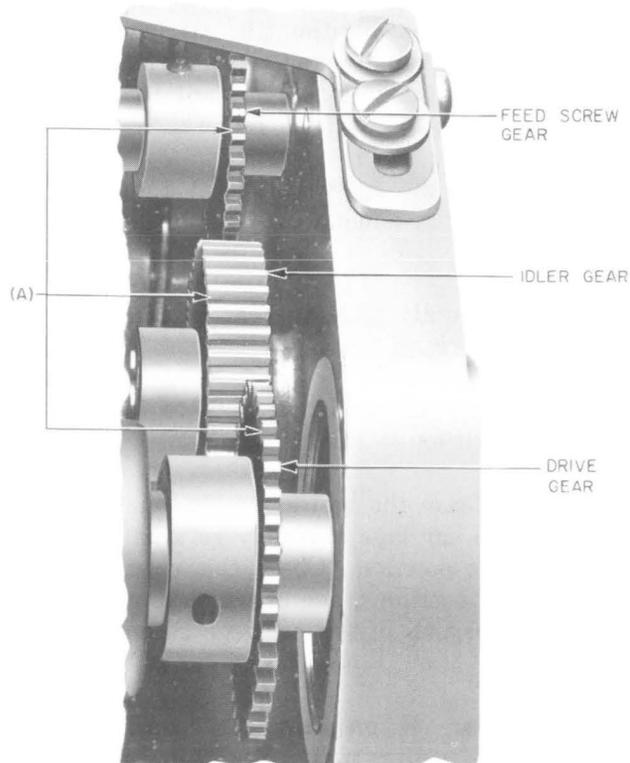

Fig. 5—Lubrication of Gears
- (e) **Gear Teeth:** A film of ♦KS-19139 L4 lubricant♦ on all gear teeth [Fig. 5, (A)].